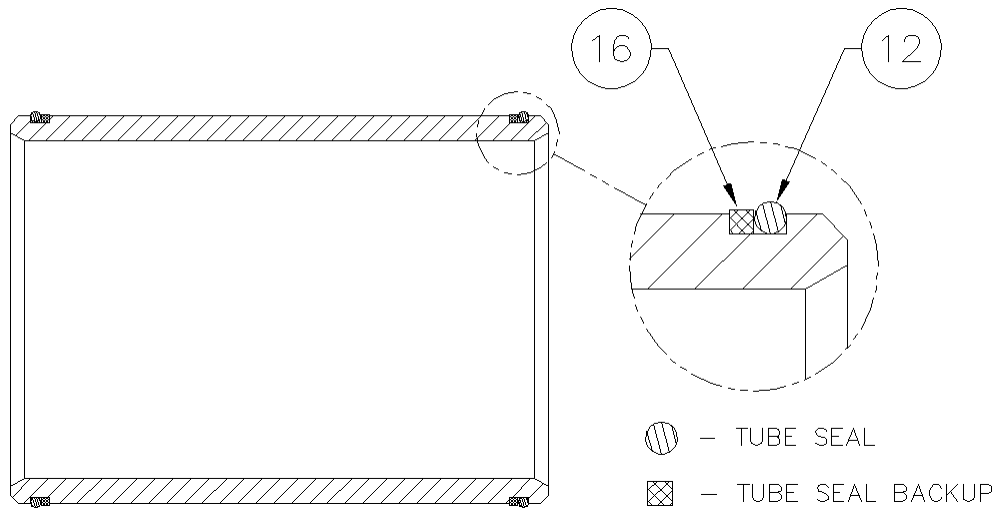
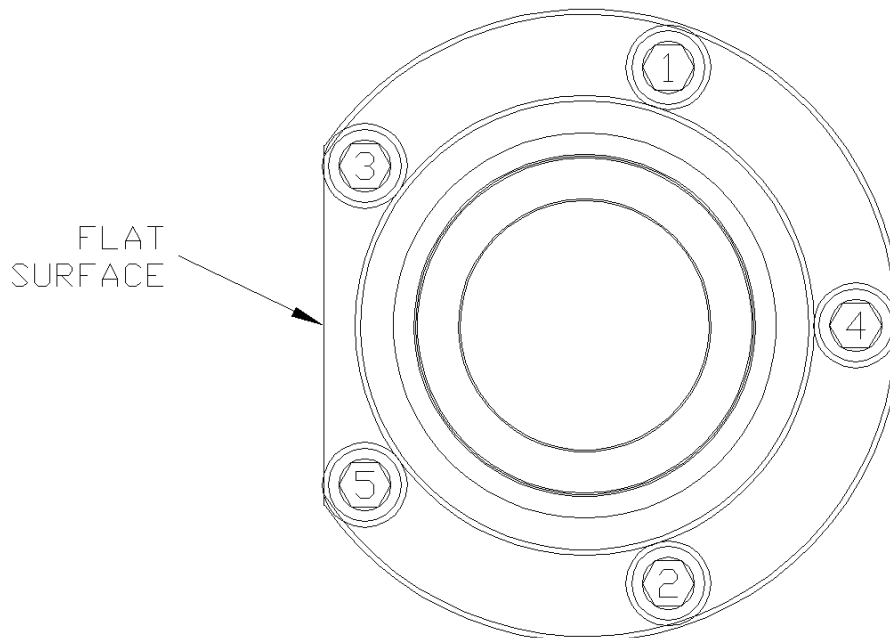
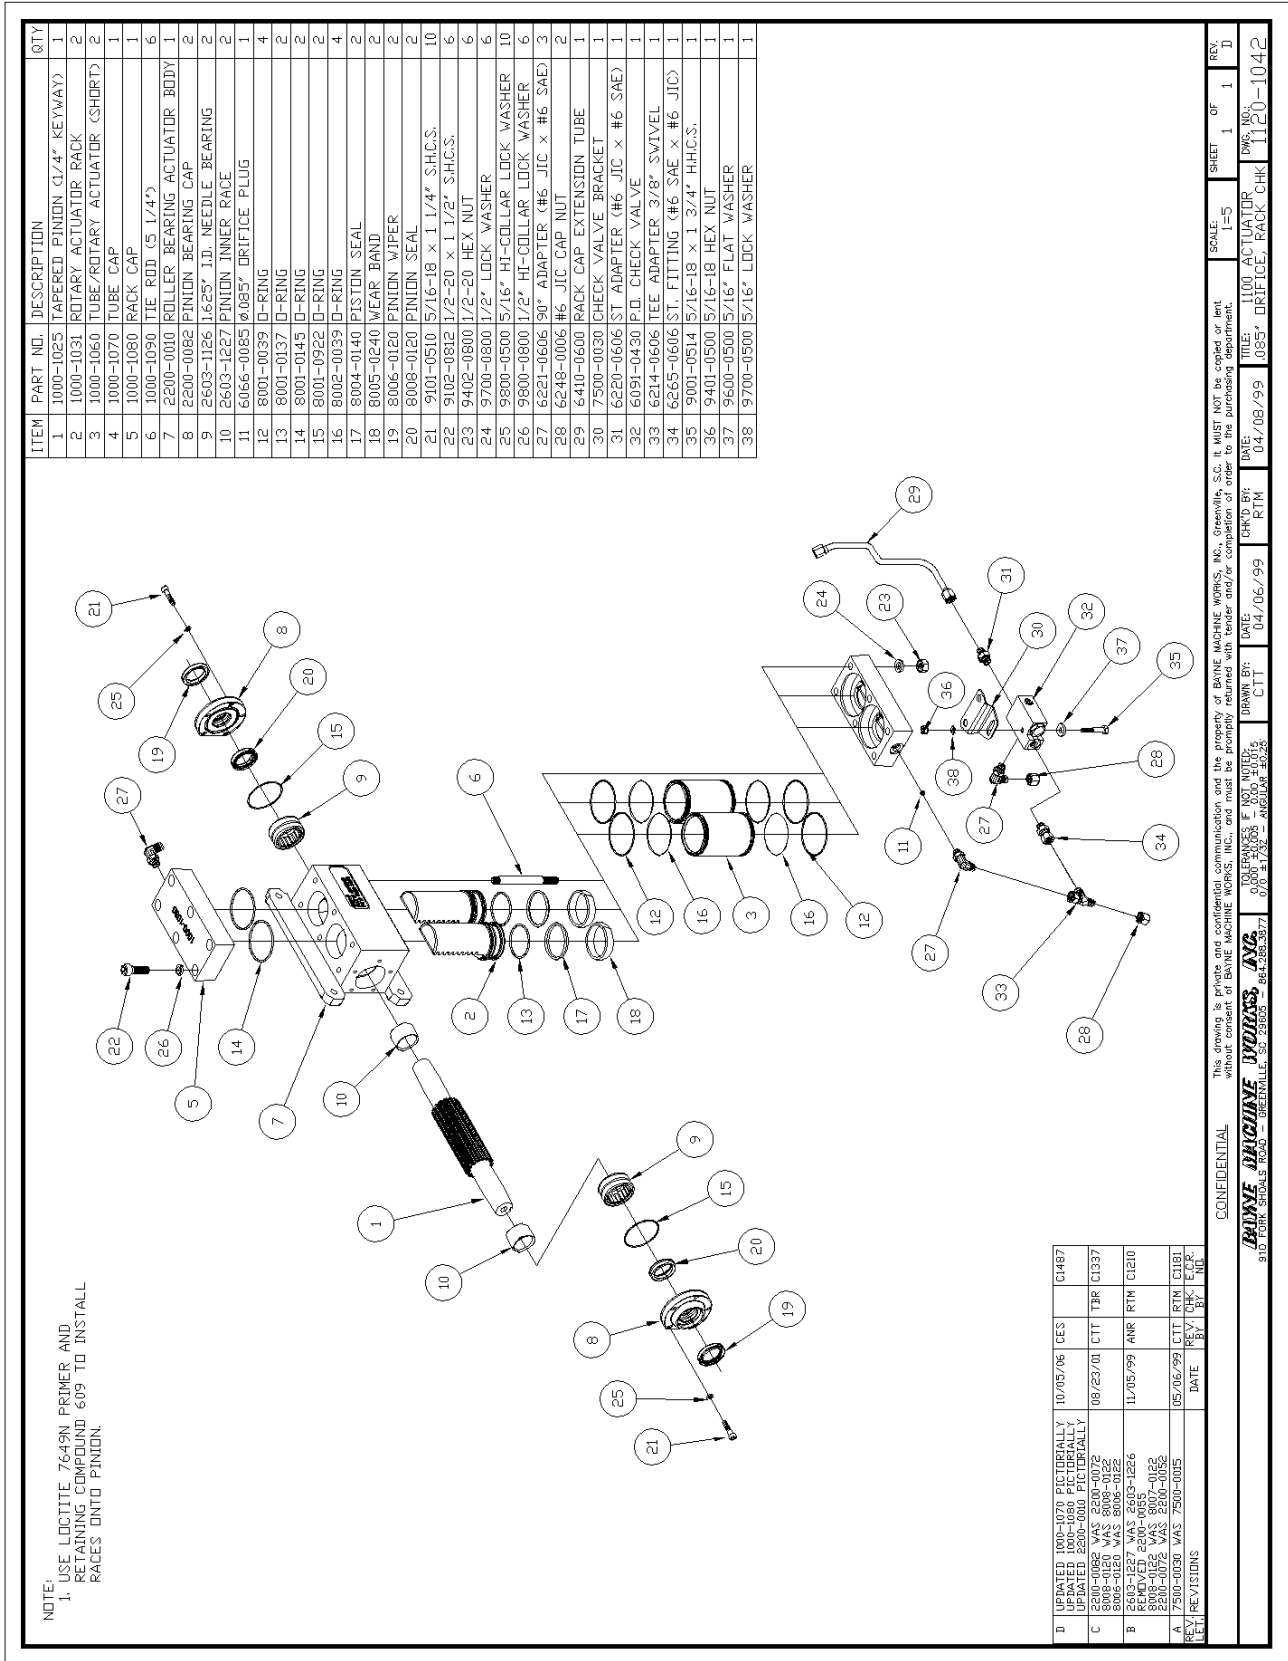

figure A-2
figure A-12
figure A-13
Before starting the assembly of the Rotary Actuator, refer to the exploded parts drawing and parts list (fig. A-13 found at the end of these instructions) to familiarize yourself with the individual components. Prepare a clean surface, in an area free of blowing dust and contaminants in which to assemble the Rotary Actuator. Be sure that all parts are thoroughly clean and dry before starting assembly.
2. Install the tube seal (12) (fig. A-2) and “square” tube seal backup (16) on each end of the actuator tubes (3) (fig. A-13). Be sure that the “square” tube seal backup ring is toward the inside of the tubes at both ends as shown. Press all rings firmly into the grooves. Repeat this procedure for the other tube.
- Coat the head portion of the racks (2) (fig. A-13) with STP Oil Treatment. Install the racks, head portion up with the teeth facing the flanges of the actuator body, into the dual set of bores in the body. Simultaneously slide the racks into the bores so that the racks mesh with the pinion in the same position. Rotate the pinion shaft to engage the racks into the pinion.
7. Coat one end of the actuator tubes (3) (fig. A-13) around the seal area with STP Oil Treatment as shown in figure A-7. Using a rubber mallet, drive the coated end of the tube onto the exposed rack until the tube end seats in the actuator body, making sure that the seals remain in place as the tube enters the counter-bore. Repeat this procedure for the other side.
8. Install the six tie rod studs (6) (fig. A-13) by screwing the short threaded end into the actuator body. Hand tighten only at this time (the torque needed will be applied later in the procedure).
9. Place the tube cap (4) (fig. A-13) on the table. Coat the sides of the two bores in the tube cap with STP Oil Treatment. Install the cap over the tubes and rod studs with the oil port positioned to the left as shown in figure A-13. Using a rubber mallet, tap the tube cap over the tubes until the tubes seat in the cap, making sure that the seals remain in place.
10. Place the check valve mounting bracket (30) (fig. A-13) over the end of the two rod studs closest to the oil port in the tube cap as shown in figure A-13.
11. Install the hex nuts (23) (fig. A-13) and lock washers (24) on the tie rod studs. Torque the nuts to 50 ft-lb. in the sequence shown in figure A-8.
12. Place the rack cap (5) (fig. A-13) bore side up on the table and coat the edge of each bore with STP Oil Treatment. Install the rack cap seals (14) (fig. A-9) in the rack cap.
13. Reposition the actuator on the table mounting flanges down, and the lower tubes facing away from the assembler. Rotate the pinion shaft to allow 1” of the rack to protrude from the top of the actuator body. Install the rack cap with the oil port positioned to the left hand side of the actuator opposite the bottom oil port located in the tube cap as shown in figure A-13. Attach the rack cap to the actuator body using the socket head bolts (22) (fig. A-13) and lock washers (26). Torque the bolts to 90 ft-lb. in the sequence shown in figure A-10.
15. Re-center the actuator pinion in the actuator body by tapping on one end of the shaft with a rubber mallet. Install the roller bearing (9) (fig. A-13), over the pinion shaft and inner race, and into the actuator body. Repeat this procedure for the other bearing.
18. Wrap masking tape or electrical tape around the pinion to cover the edges at the keyway. Slide the bearing cap assembly over the pinion shaft with the bearing cap seal facing toward the actuator body and the flat surface of the flange shown in figure A-12 facing toward the actuator mounting flanges. Press against the bearing cap until the shoulder seats against the actuator body, making sure that the seals remain in place. Install the bearing cap bolts (21) (fig. A-13) and lock washers (25). Hand tighten only at this time. Repeat this procedure for other bearing cap.
19. After both bearing caps have been installed, torque all bearing cap bolts to 30 ft-lb. in the sequence shown in figure A-12.
20. Bolt the check valve (32) (fig. A-13) to the check valve mounting bracket (30) with the 5/16" bolt (35), hex nut (36), flat washer (37), and lock washer (38) as shown in figure A-13.
21. Install the 90° adapter (27) (fig. A-13) into the oil port on the side of the rack cap (5). Hand tighten only at this time.
22. Install the straight adapter (31) (fig A-13) in the "C" port of the check valve (32).
23. Install the tubing assembly (29) (fig. A-13) between the 90° adapter in the rack cap and the straight adapter in the "C" port of the check valve.
24. Install the orifice plug (11) (fig. A-13) into the oil port on the side of the tube cap (4), and install the 90° adapter (27) into the oil port over the orifice plug as shown in figure A-13. Hand tighten only at this time.
25. Install the straight swivel adapter (34) in the "P" port of the check valve (32).
26. Attach the swivel tee adapter (33) (fig. A-13) to the 90° adapter (27) in the tube cap and the straight swivel adapter (34) in the "P" port of the check valve.
27. Install the 90° adapter (27) in the "V" port of the check valve (32).
28. Tighten all connections, and install the cap nuts (28) (fig. A-13) on the open adapters as shown in figure A-13 to prevent contamination of the unit until the hoses are connected.